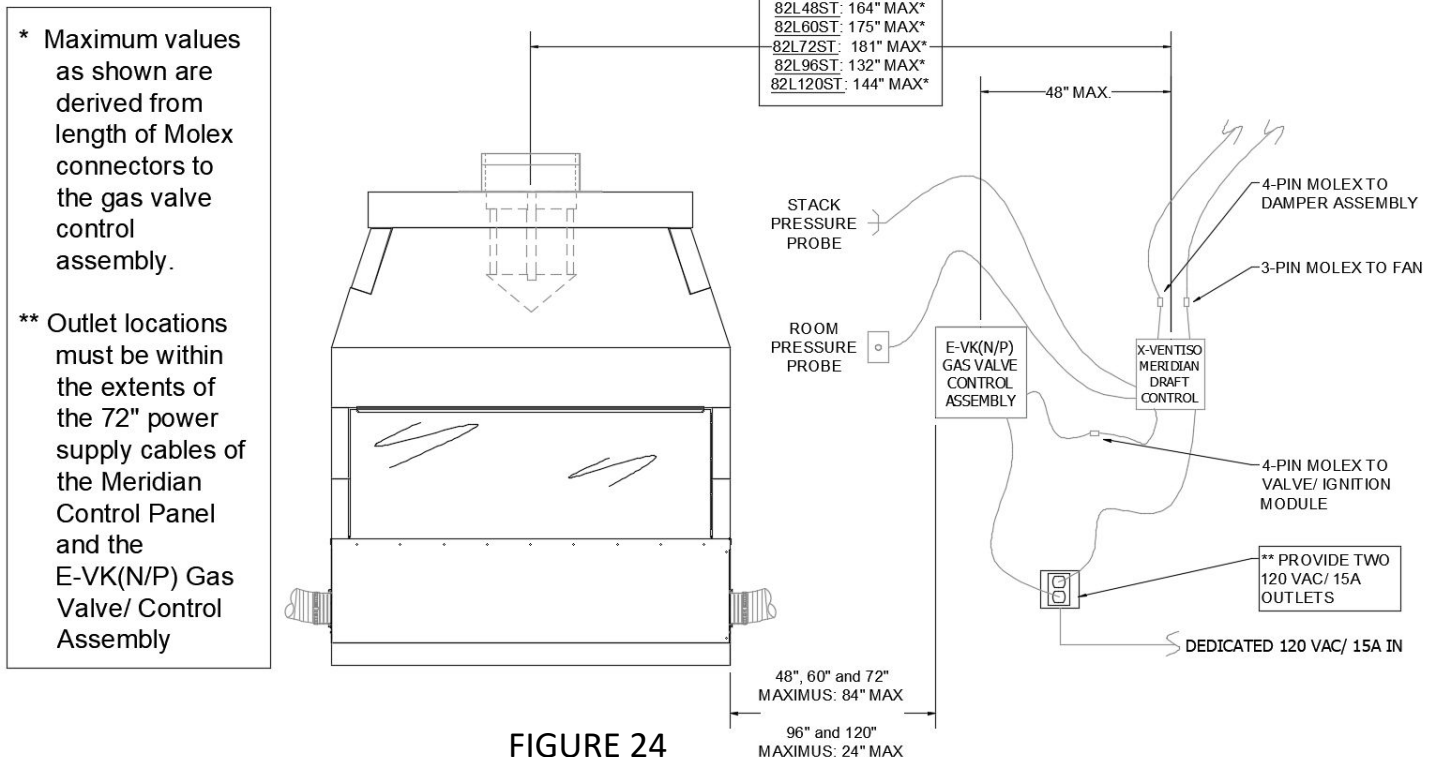

FIGURE 24
- The location of the Meridian Control Panel is dependent upon the fireplace model and must be within the values shown in **(Figure 24)**. The distances shown are as measured horizontally from the fireplace flue-outlet.
NOTE: the Isoflames Linear Burner’s gas valve control box location is also dependent upon the fireplace model/ burner size. It must be located within 84” of the sidewall of the firebox for the 48”, 60”, and 72” Maximus Linear and within 24” for the 96” and 120” Maximus Linear **(Figure 24)**.
- Two 120 VAC / 15A outlets must be provided at the chosen location on a dedicated circuit; one for the Meridian Control Panel, the other for the Gas Valve Control Box . These outlets must be within the extent of the 72” power supply cables of the Meridian Control Panel and the E-VK(N/P) Gas Valve Control assembly **(Figure 24)**.
- 3) Connect the top port of the Meridian Control Panel's pressure ports with the supplied tubing to the "Stack Pressure" vent probe (**Figure 24, 25 & 27**). This will be connected to the chimney at a location 12" above the anchor plate.
- 4) Connect the lower port of the Meridian Control Panel's pressure ports with the supplied tubing to the "Room Pressure" vent probe (**Figure 24, 26 & 27**). The other end will be connected in a suitable location in the room in which the fireplace is installed. This location must be in the same pressure zone as the fireplace opening, and within reach of the supplied tubing's connection to the Meridian Control Panel. The tubing measures 20ft.